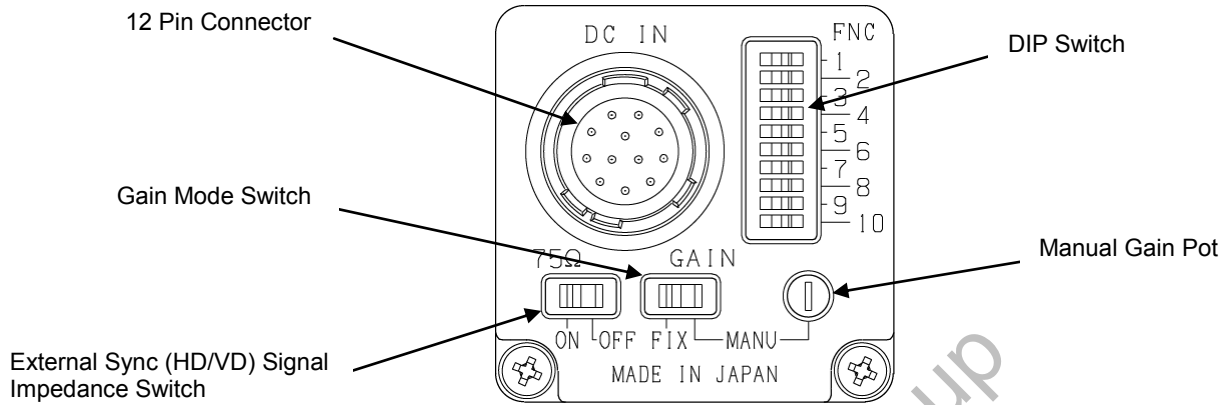

Figure 1
2. DIP Switch Settings (Refer to Dip Switch in Figure 1)
3. External Sync. (HD/VD) signal impedance setting (See **External Sync.** in **Figure 1**)
4. Gain Mode Setting (See **Gain Mode Switch** in **Fig. 1**)
The gain can be adjustable by the manual gain pot (See **Manual Gain Pot** in **Fig. 1**).